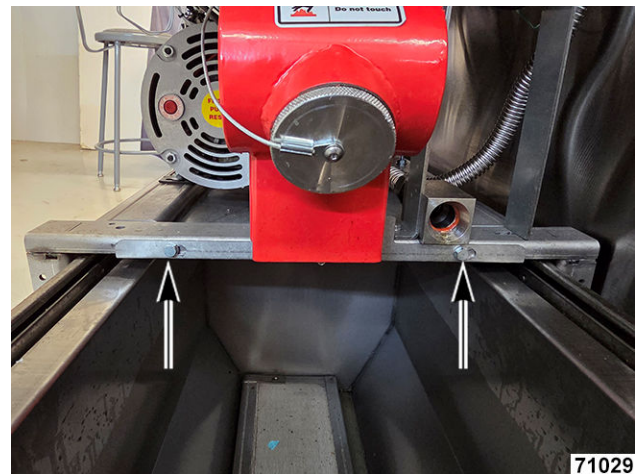

Fig. 54
7. Remove filtration mount cover (Fig. 54).